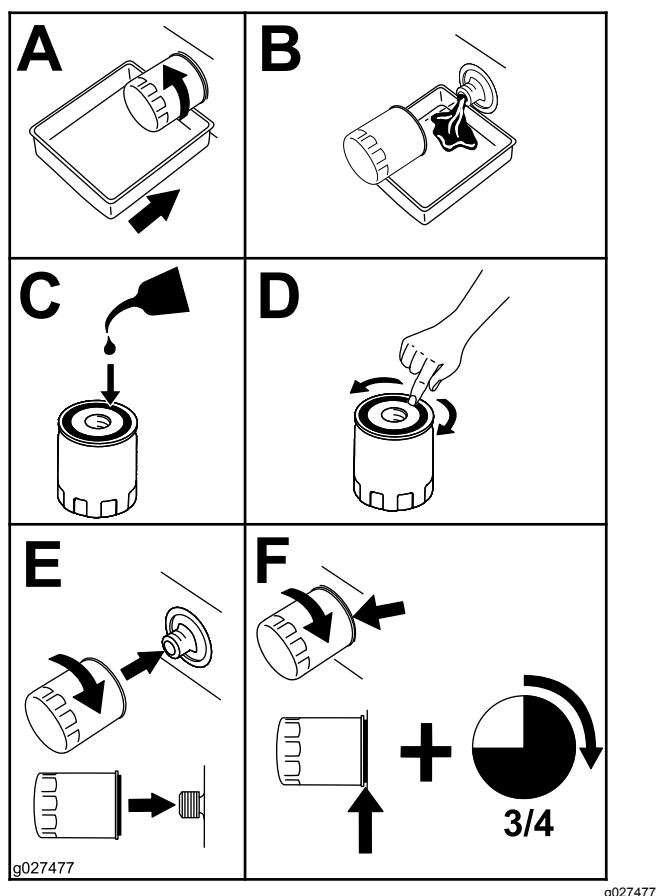

Figure 45
- Change the engine-oil filter (Figure 45).